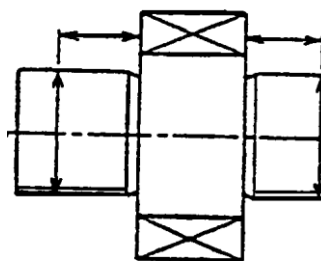

Fig. 7-13
- (d) Inspect the driving gear and the driven gear. If they are worn, replace them. (Fig. 7-13)